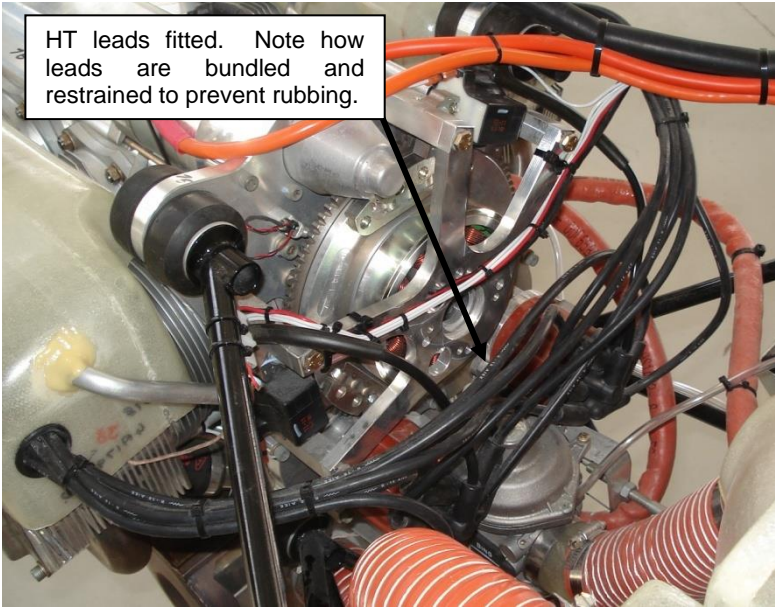

Figure 203 – HT Leads Fitted To Engine
- Assemble the high-tension leads onto the engine, cable-tying them as shown in Figure 203.